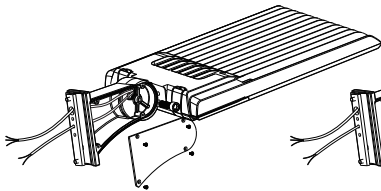

Figure 5
3. DIRECT MOUNTING (DM)
Step 1: Remove the bracket mounting screws on the fixture, open the side lid of bracket and run the wires through the bracket. (Figure 5)